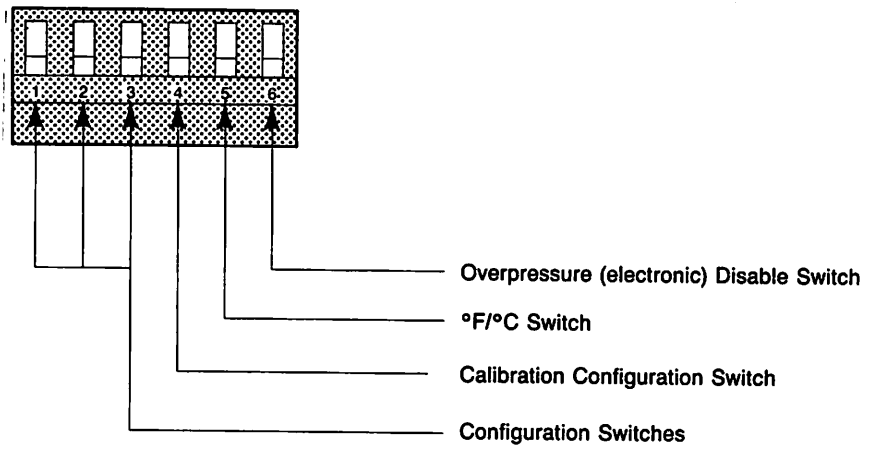

Figure 6-5. S2 Internal DIP Switch
- b. The internal DIP switch S2 is accessible through louver holes in the bottom, right-hand side of the instrument with the instrument closed (see figure 6-5); note the hospital setting of the DIP switches, nos. 1-4. (See table 6-5.)
- a. Set the S2 internal DIP switch, no. 6, to the up position. (See figure 6-5.)
- b. Set the internal DIP switch S2 (see figure 6-5), as follows: